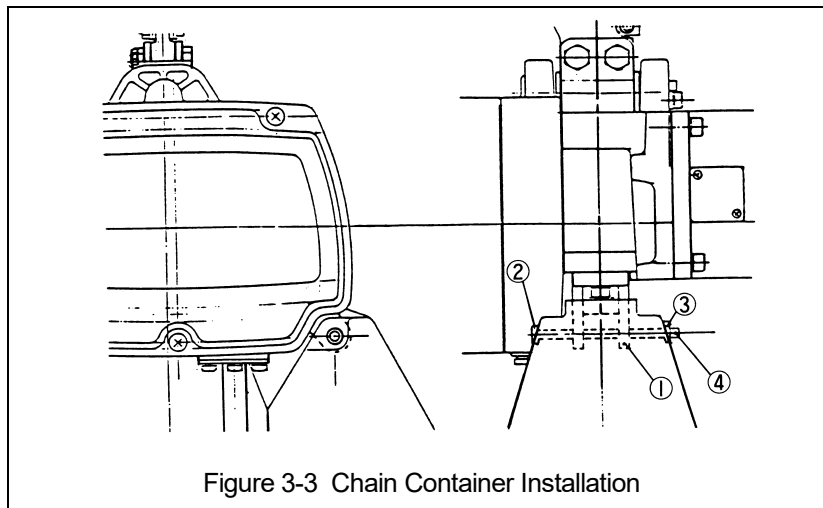

Figure 3-3 Chain Container Installation
3.4.1 Follow the instructions below to install the Chain Container. Refer to Figure 3-3.